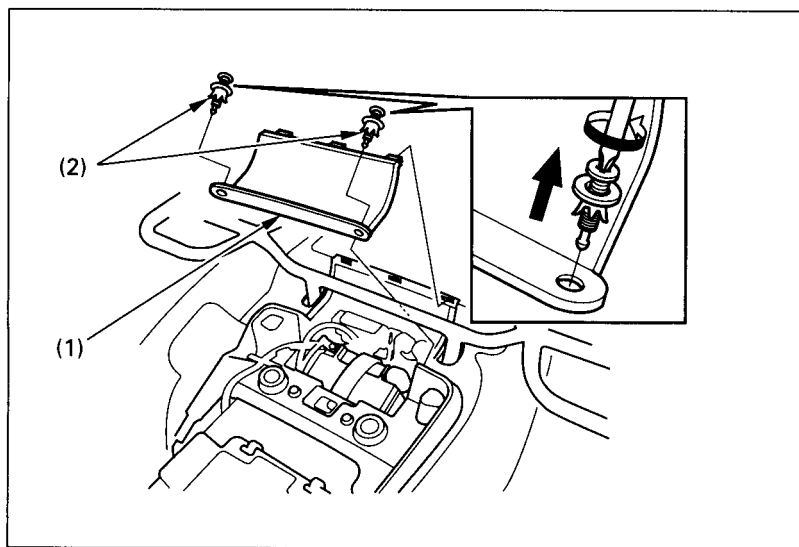

Fig.4-17
3. To remove the rear fender lid (1), remove the clips (2) (Fig. 4-17).